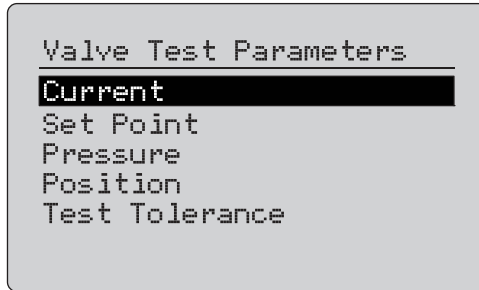

Figure 57. Valve Tests
1. In the calibrator Setup Menu (see Figure 9), select **Valve Test Parameters** to review the variable mapping. See Figure 57.